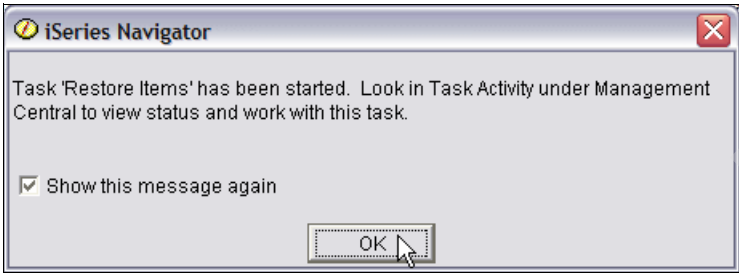

Figure 6-109 Restore started window
15. We get the restore job has been started window shown in Figure 6-109. Click **OK**.